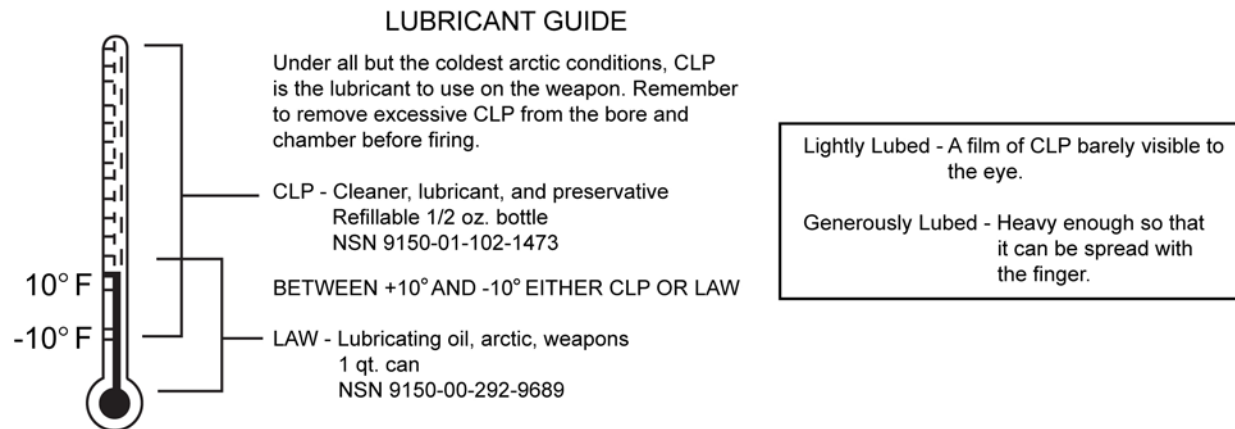

Figure 1. Lubricant Guide.
3. **Lubrication.** CLP is the lubricant to be used under all but the coldest arctic conditions when lubricant, arctic, weapons (LAW) is used. Remove excessive lubricant from the bore and chamber before firing. For a lubricant guide, refer to Figure 1.